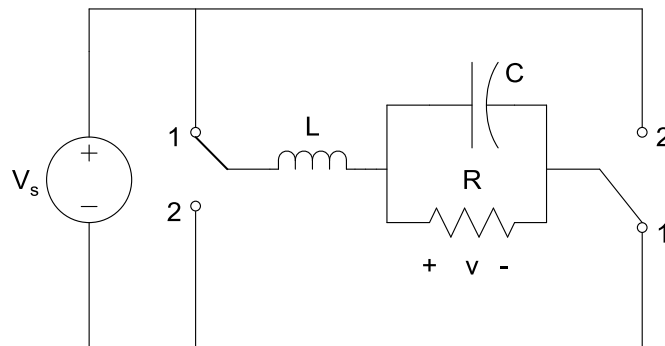

Fig. Q1B
- 1A. Design a buck converter to obtain an output voltage of 25 V from an input of 50 V. The switching frequency is 20 kHz and the output power is 125 W. Determine the duty ratio, value of inductance to limit the peak inductor current to 6.25 A and value of capacitor to limit the output voltage ripple to 0.5%. Take the drop across the switch and the diode to be 0.3 V and 0.5 V respectively. (06)
- 1B. For the circuit shown in Fig. Q1B, determine the voltage conversion ratio V_o/V_s when both the switches are operated synchronously i.e. each is in position 1 for $0 < t < DT_s$ and in position 2 for $DT_s < t < Ts$. (04)
- 2A. SEPIC has the following parameters: $V_s = 12V \pm 5\%$, $V_o = 12V$, $I_o = 1A$. The inductor current and capacitor voltage ripples should be less than 3%. Design the circuit for mentioned specifications assuming circuit components to be ideal and employ 100 kHz of switching frequency for the design. (05)
- 2B. With the help of neat circuit schematic and relevant waveforms, explain the working principle of buck-boost converter. Assuming continuous mode of operation, determine the selection of inductor and the capacitor for a particular ripple condition. Hence, obtain an expression for output voltage. (05)
- 3A. A flyback converter has the following parameters: $V_s = 24V$, $N_1/N_2 = 3$, $L_m = 500 \mu H$, $R = 5\Omega$, $C = 200 \mu F$, $f_s = 40 kHz$ and $V_o = 5V$. Determine duty ratio, maximum and minimum current in L_m , output voltage ripple. Now, if the load resistance is increased from 5Ω to 20Ω , with all other parameters remaining unchanged, determine the output voltage. (06)
- 3B. Explain the role of tertiary winding in case of Forward converter. Hence derive an expression for the duty ratio D which ensures the total demagnetization of the core before the start of next switching cycle. (04)
- 4A. A zero current switching dc-dc converter has the following specifications: $P_o = 30W$, $V_o = 15V$, $Z_o = 2.5\Omega$, $C_r = 0.02 \mu F$, the time between diode turn-off and the switch turn-off is 4 μsec . Find the input voltage and the switching frequency for suitable implementations. (05)
- 4B.** In a SLR dc-dc converter, $V_s = 100 \text{ V}$, $L_r = 75 \mu\text{H}$, $C_r = 0.04 \mu\text{F}$, $f_s = 100 \text{ kHz}$, $R_L = 10 \Omega$. a) Determine the output voltage V_o . b) If the source voltage now varies over $\pm 5\%$, find the range of switching frequency necessary to regulate the output voltage. (05)
- 5A.** Using state-space averaging technique, develop small signal transfer function $\frac{\tilde{v}_o(s)}{\tilde{d}(s)}$ for a buck converter. Assume the circuit components to be ideal. (06)
- 5B.** What do you mean by voltage feedforward control? With suitable plots, explain how feedforward property can be incorporated using current control technique. (04)
- 6A.** Make a technical comparison between linear power supplies and switched mode power supplies. (03)
- 6B.** With suitable block schematic, explain the working of online UPS with a mention of practical application of the same. (03)